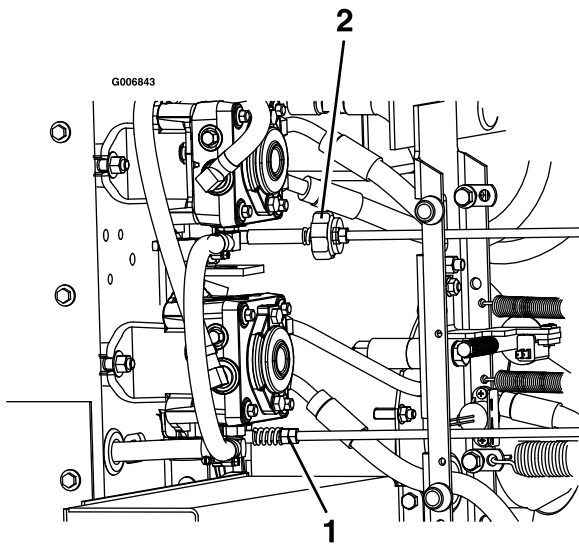

Figure 17
7. Adjust the right pump linkage by using a wrench to turn the double nuts on the assembly (see Figure 17)